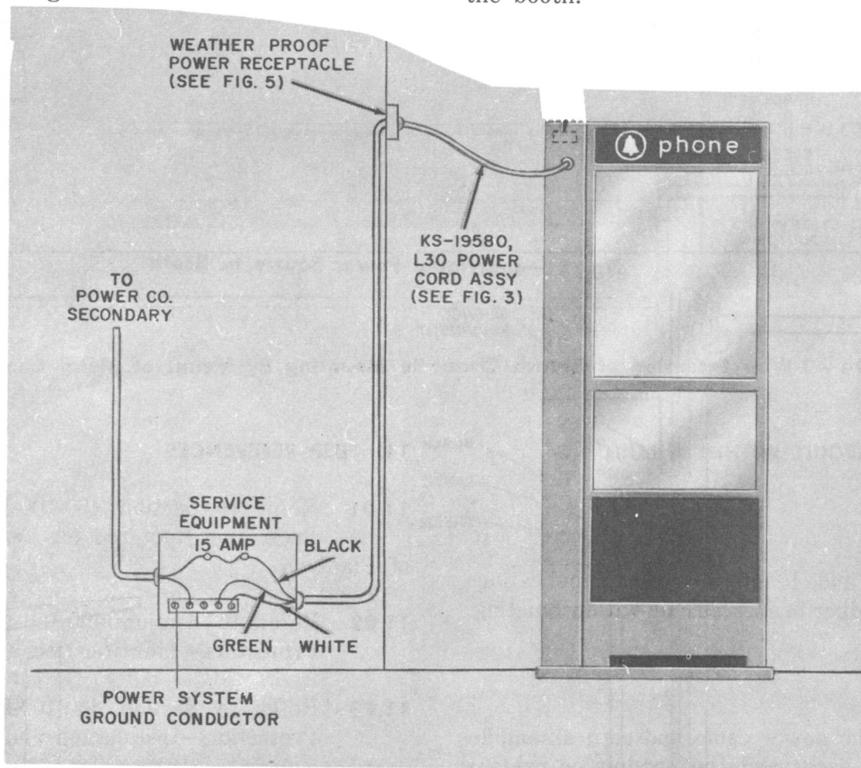

Fig. 13—3-Wire Extension of Branch Circuit to Booth By Means of Power Cord
9.05 Fig. 13 through 16 show various applications for extending branch circuit.